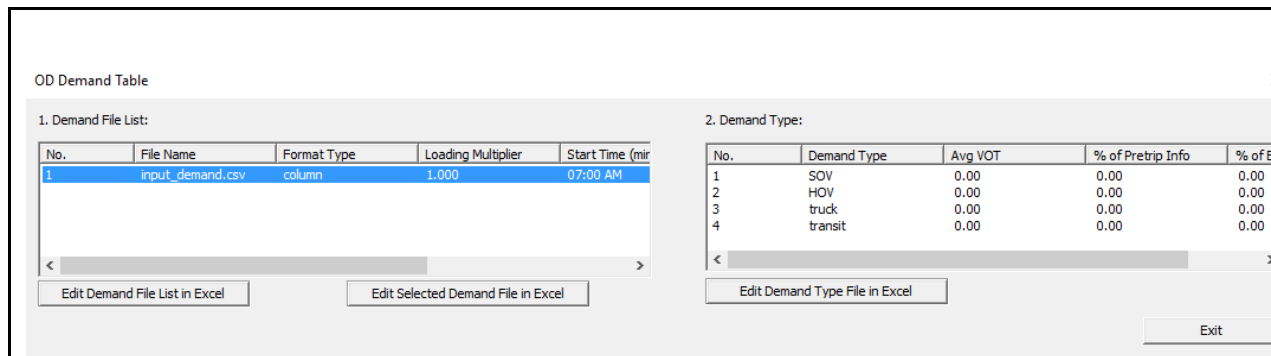

Fig.17.OD demand matrix
- Method 2: through the NeXTA’s interface: the result is shown in Fig.17.